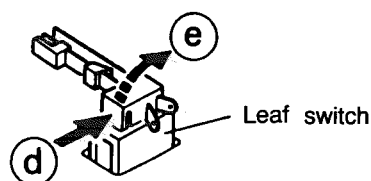

Fig.2-19
(See Fig.2-19)
- Press the leaf switch in the direction of the arrow ① and then remove it in the direction of the arrow ② referring to Fig. 2-19.